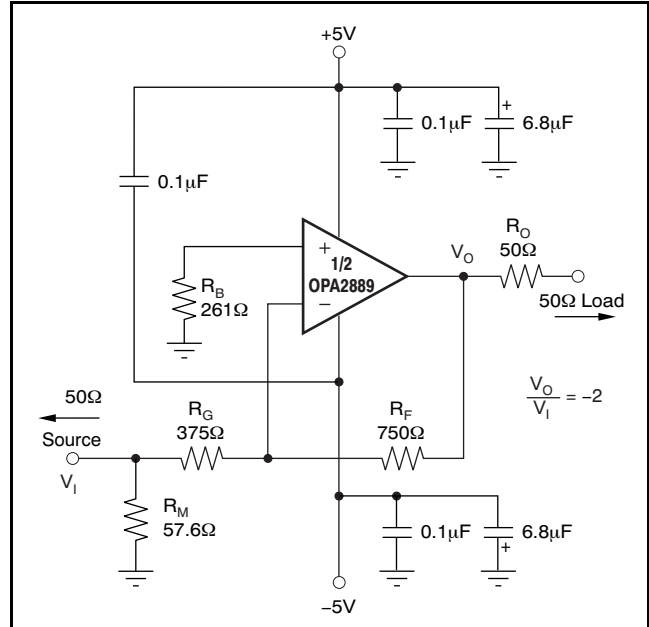

Figure 60. Gain of $-2V/V$ Example Circuit
The OPA2889 is a general-purpose, wideband, voltage-feedback op amp; therefore, all of the familiar op amp application circuits are available to the designer. Inverting operation is one of the more common requirements and offers several performance benefits. See Figure 60 for a typical inverting configuration where the I/O impedances and signal gain from Figure 50 are retained in an inverting circuit configuration.
In the inverting configuration, three key design considerations must be noted. The first is that the gain resistor (R_G) becomes part of the signal channel input impedance. If input impedance matching is desired (which is beneficial whenever the signal is coupled through a cable, twisted-pair, long PCB trace, or other transmission line conductor), R_G may be set equal to the required termination value and R_F adjusted to give the desired gain. This consideration is the simplest approach and results in optimum bandwidth and noise performance. However, at low inverting gains, the resultant feedback resistor value can present a significant load to the amplifier output. For an inverting gain of $-2V/V$, setting R_G to 50Ω for input matching eliminates the need for R_M but requires a 100Ω feedback resistor. This approach has the interesting advantage that the noise gain becomes equal to $2V/V$ for a 50Ω source impedance—the same as the noninverting circuits considered in Figure 60. The amplifier output, however, now sees the 100Ω feedback resistor in parallel with the external load. In general, the feedback resistor should be limited to the 200Ω to 1.5kΩ range. In this case, it is preferable to increase both the R_F and R_G values (see Figure 60), and then achieve the input matching impedance with a third resistor (R_M) to ground. The total input impedance becomes the parallel combination of R_G and R_M .
The second major consideration, touched on in the previous paragraph, is that the signal source impedance becomes part of the noise gain equation and influences the bandwidth. For the example in Figure 60, the R_M value combined in parallel with the external 50Ω source impedance yields an effective driving impedance of $50\Omega \parallel 57.6\Omega = 26.7\Omega$. This impedance is added in series with R_G for calculating the noise gain (NG). The resulting NG is $2.86V/V$ for Figure 60, as opposed to only $2V/V$ if R_M could be eliminated as discussed above. Therefore, the bandwidth is slightly lower for the gain of $-2V/V$ circuit of Figure 60 than for the gain of $+2V/V$ circuit of Figure 50.
The third important consideration in inverting amplifier design is setting the bias current cancellation resistor on the noninverting input (R_B). If this resistor is set equal to the total dc resistance looking out of the inverting node, the output dc error, as a result of the input bias currents, is reduced to $(\text{Input Offset Current}) \times R_F$. If the 50Ω source impedance is dc-coupled in Figure 60, the total resistance to ground on the inverting input is 402Ω.
previously recommend maximum value of 400Ω. Keeping both ($R_F \parallel R_G$) and the noninverting input source impedance less than 400Ω satisfies both noise and frequency response flatness considerations. Because the resistor-induced noise is relatively negligible, additional capacitive decoupling across the bias current cancellation resistor (R_B) for the inverting op amp configuration of Figure 60 is not required.